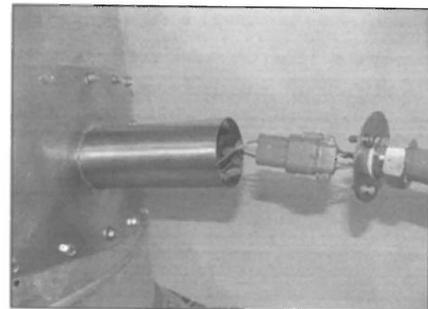
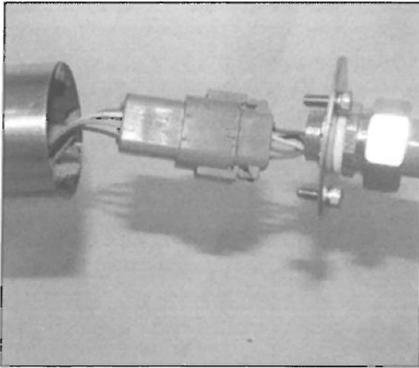

Figure 2-9 Connecting the Harness
Figure 2-10 Connecting Harness
11. Refer to **Figure 2-9** and **Figure 2-10**